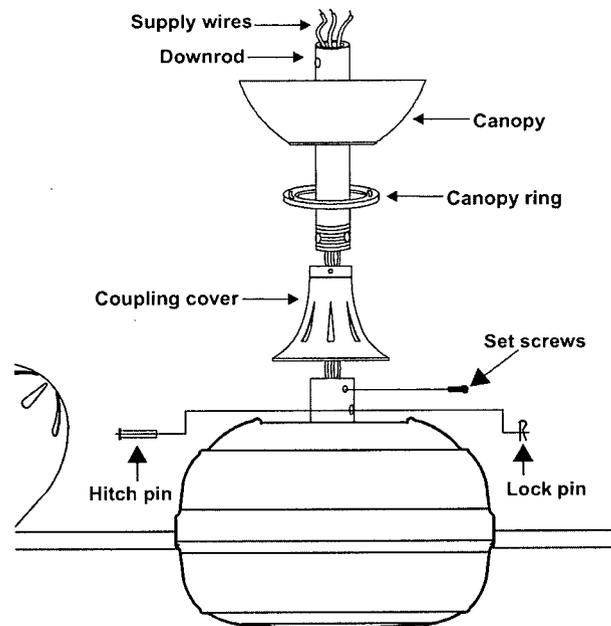

Figure 8
5. Loosen the two set screws from the central shaft/top coupling of the motor assembly. Doing so will allow the down rod to enter the central shaft. (Fig. 8)
8. (Fig. 8) **NOTE: Make sure that coupling cover has at least 1/8" to 1/4" clearance between it and fan motor assembly. If this clearance is not given, the fan will not rotate.**